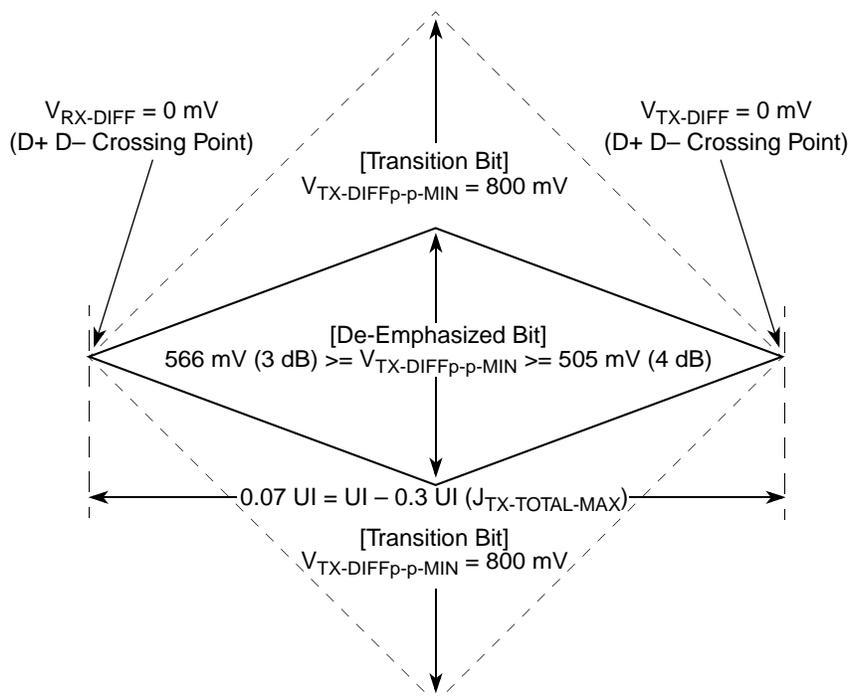
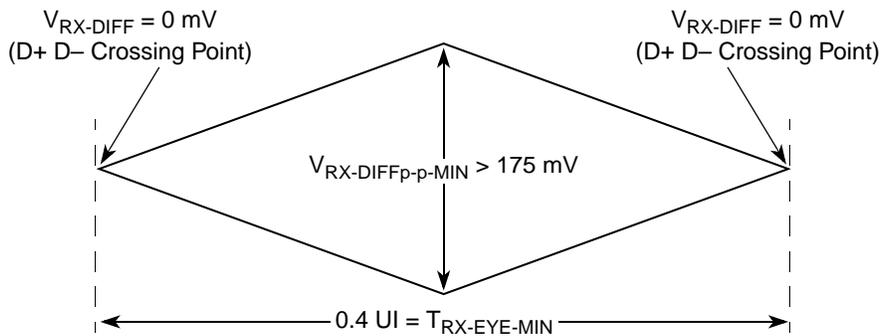
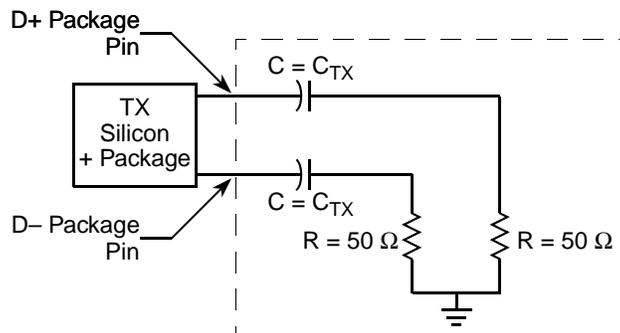

Figure 56. Minimum Transmitter Timing and Voltage Output Compliance Specifications
Figure 57. Minimum Receiver Eye Timing and Voltage Compliance Specification
Figure 58. Compliance Test/Measurement Load
2. Specified at the measurement point into a timing and voltage compliance test load as shown in Figure 58 and measured over any 250 consecutive TX UIs. (Also refer to the transmitter compliance eye diagram shown in Figure 56.)
4. The transmitter input impedance shall result in a differential return loss greater than or equal to 12 dB and a common mode return loss greater than or equal to 6 dB over a frequency range of 50 MHz to 1.25 GHz. This input impedance requirement applies to all valid input levels. The reference impedance for return loss measurements is 50 Ω to ground for both the D+ and D- line (that is, as measured by a vector network analyzer with 50- Ω probes—see Figure 58.) Note that the series capacitors C_{TX} is optional for the return loss measurement.
5. Measured between 20%–80% at transmitter package pins into a test load as shown in Figure 58 for both $V_{\text{TX-D+}}$ and $V_{\text{TX-D-}}$.
The TX eye diagram in Figure 56 is specified using the passive compliance/test measurement load (see Figure 58) in place of any real PCI Express interconnect +RX component.
2. Specified at the measurement point and measured over any 250 consecutive UIs. The test load in Figure 58 should be used as the RX device when taking measurements (also refer to the receiver compliance eye diagram shown in Figure 57). If the clocks to the RX and TX are not derived from the same reference clock, the TX UI recovered from 3500 consecutive UI must be used as a reference for the eye diagram.
4. The receiver input impedance shall result in a differential return loss greater than or equal to 15 dB with the D+ line biased to 300 mV and the D– line biased to –300 mV and a common mode return loss greater than or equal to 6 dB (no bias required) over a frequency range of 50 MHz to 1.25 GHz. This input impedance requirement applies to all valid input levels. The reference impedance for return loss measurements for is 50 Ω to ground for both the D+ and D– line (that is, as measured by a vector network analyzer with 50- Ω probes, see Figure 58). Note that the series capacitors CTX is optional for the return loss measurement.
The RX eye diagram in Figure 57 is specified using the passive compliance/test measurement load (see Figure 58) in place of any real PCI Express RX component.
In general, the minimum receiver eye diagram measured with the compliance/test measurement load (see Figure 58) will be larger than the minimum receiver eye diagram measured over a range of systems at the input receiver of any real PCI Express component. The degraded eye diagram at the input receiver is due to traces internal to the package as well as silicon parasitic characteristics which cause the real PCI Express component to vary in impedance from the compliance/test measurement load. The input receiver eye diagram is implementation specific and is not specified. RX component designer should provide additional margin to adequately compensate for the degraded minimum receiver eye diagram (shown in Figure 57) expected at the input receiver based on some adequate combination of system simulations and the return loss measured looking into the RX package and silicon. The RX eye diagram must be aligned in time using the jitter median to locate the center of the eye diagram.
The reference impedance for return loss measurements is 50 Ω to ground for both the D+ and D- line (that is, as measured by a vector network analyzer with 50-Ω probes, see Figure 57). Note that the series capacitors, CTX, are optional for the return loss measurement.
The AC timing and voltage parameters must be verified at the measurement point, as specified within 0.2 inches of the package pins, into a test/measurement load shown in Figure 58.